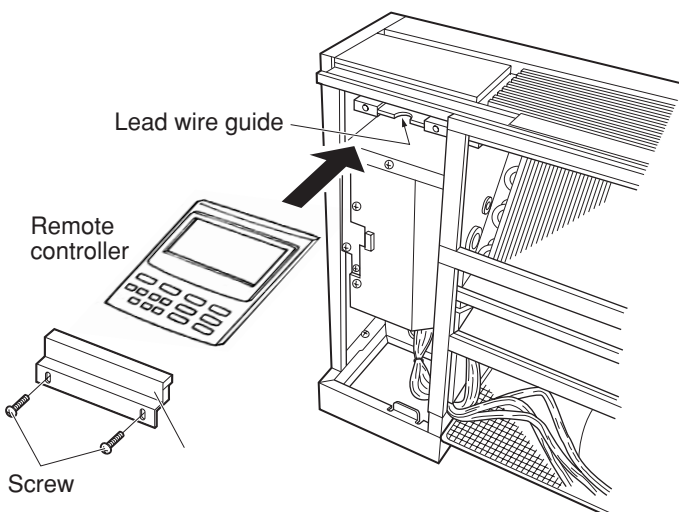

Fig. 3-115
- (2) Remove the front panel. Remove the screws and fixture. (Fig. 3-115)
- (3) Place the remote controller into the space in the unit as shown in Fig. 3-115. Assemble the lead wires of the remote controller to its rear side center and route them to the lead wire guide.
- (4) Secure the fixture using the supplied screws.